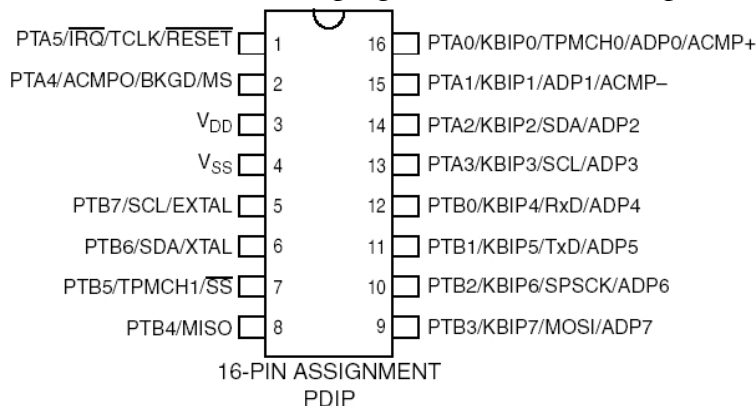

Figure 1 HCS08QG8 pinout diagram
1) Reserve space on your solderless breadboard for your microcontroller. It is a 16 pin DIP. Pins 1, 2, 3, and 4 of your HCS08QG8 microcontroller on the breadboard are connected back to the DEMO board (pins 13, 6, 1, and 3 of 20 pin connector J1 respectively) to provide /Reset, “BKGD (debugging support), VDD (3.3 Volts), VSS (Ground) respectively. See Figure 1 for the HCS08QG8 pinout diagram, Figure 2 for the identity of the different signals on the 32 pin DEMO board connector, and Figure 3 for the “Recommended Connections.” We will not be using the optional external clock crystal, and for the Reset / Debugging support we will use the circuitry on the DEMO board. Do not yet remove the microcontroller from its socket on the DEMO board; we will do that later after it is programmed. Put a Ta capacitor from V_{DD} to V_{SS} .